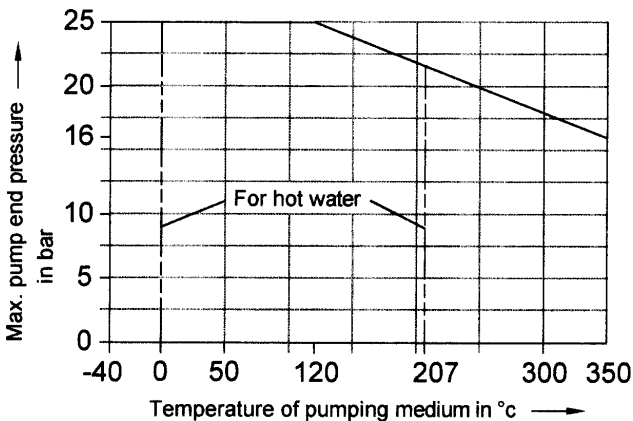

Fig.5 : Applicable for all liquids including organic heat transfer media including hot water.
- 3) CPK E pumps applicable for fig. 5 are available with flanges according to ASME B 16.5 class 300 RF only. All other CPK E pumps are available with flanges according to ANSI B 16.5 class 150 RF.